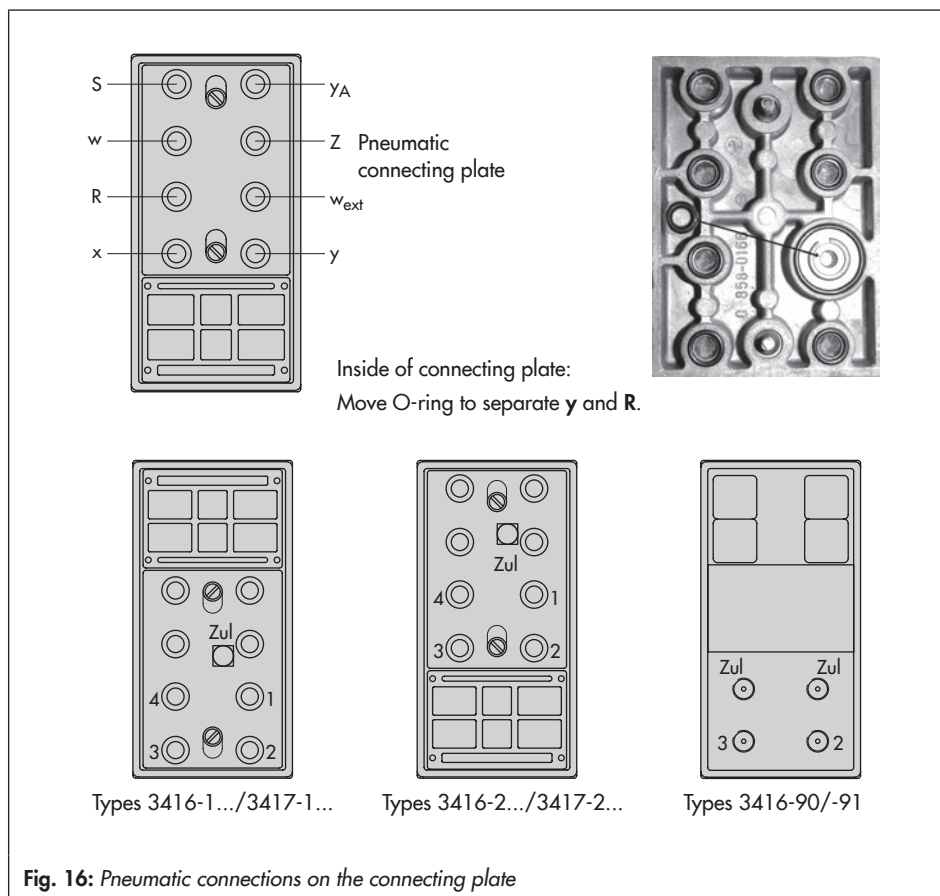

Fig. 16: Pneumatic connections on the connecting plate
If **R** and **y** ports are to be connected externally (Fig. 16, top), unfasten the connecting plate and move the O-ring to the feedback port (**y** and **R** are then separated from one another). Remove the stopper at the **R** port and replace it with a screw fitting.
6. Seal tight the w_{ext} input of the compact controller connecting plate (Fig. 16) with a screw plug with $\frac{1}{8}$ NPT thread.
Seal tight the w_{ext} input of the compact controller connecting plate (Fig. 16) with the $\frac{1}{8}$ NPT screw.